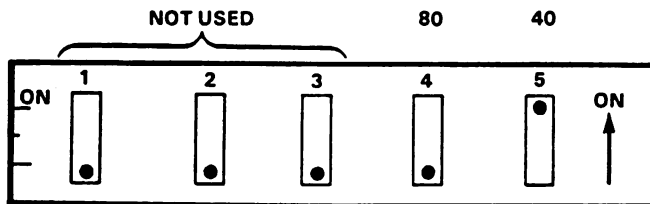

Figure C-3 Device Address /40
- b. To set the address at /40 -- Place the 40 switch in the ON position; place all other switches in the OFF position. Refer to Figure C-3. An address of /40 indicates that there are two terminal processors. The second processor, which must be set at /40, control Terminals 5-8.